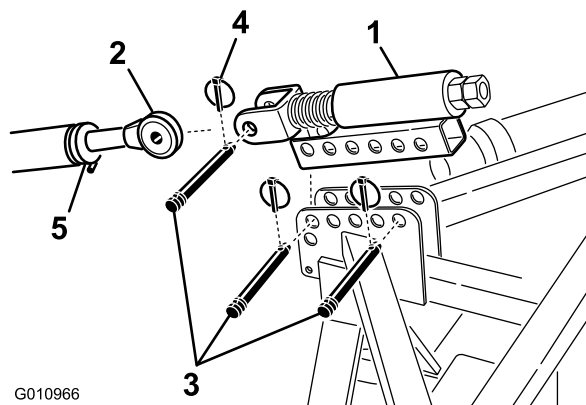

Figure 7
- Mount the spring loaded top link to the aerator bracket with two link pins and lynch pins (Figure 7)
- Loosen the lock nut on the tractor upper link. Adjust the upper link until it aligns with the clevis on the spring loaded top link of the aerator (Figure 7).
- Connect the tractor upper link to the clevis on the spring loaded top link and secure with a link pin and lynch pin (Figure 7).
- Rotate the upper link until the spring is compressed by about 1/2 inch (Figure 7).